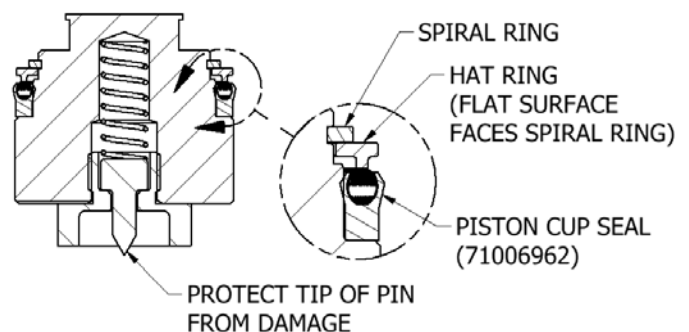

Figure 9 – Piston Assembly
- 8.5 Orient the hat ring over so the flat side faces the spiral ring. See Figure 9 for more details.